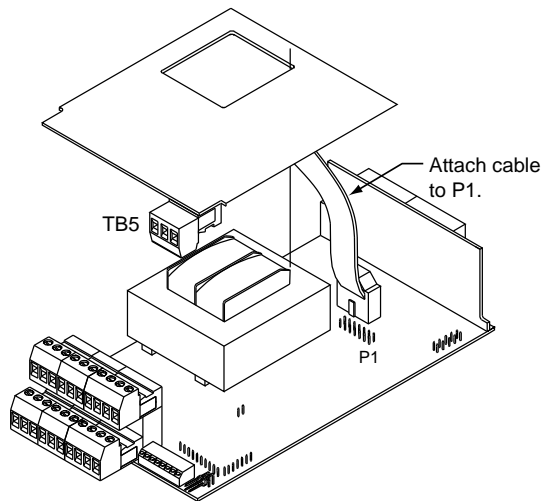

Figure 3-3. Upper Option Board Installation
This label is located on top of the meter housing (refer to Figure 3-3).
1. Cut a hole in your panel, as shown in Figure 3-3. For specific dimensions refer to Figure 3-4.